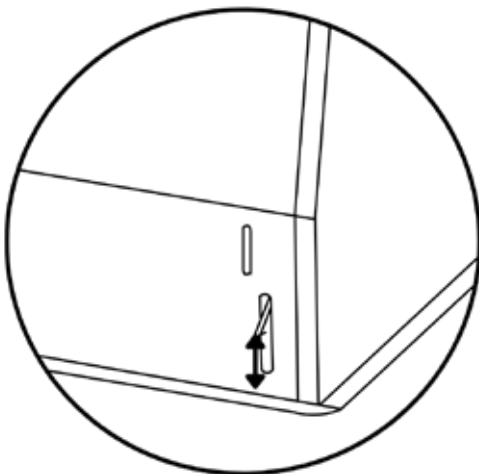

Fig.7
1. To install the appliance, adjust the position of the adjustable side-springs using the supplied screws (Fig.7), according to the thickness of the board, in which the appliance will be fixed.